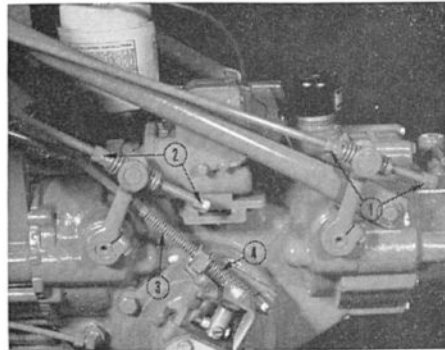

Figure 4
**CLUTCH RODS.** The need for Clutch Rod adjustment is indicated by slippage when the Operating Levers are locked in position. To adjust, tighten the lock nuts, 1 and 2 in Figure 4, until the Clutch Rod Springs are compressed fully as each Lever is locked into position. The Tractor may "creep" a little on occasion, even in neutral, but this does not indicate the need for Clutch adjustment.
The Clutch Springs, 3 and 4 in Figure 4, occasionally may need to be adjusted. With the Range Selection Lever engaged fully in high or low range, move the hex nuts on the Spring Rod until each Spring is compressed to 2½ inches.